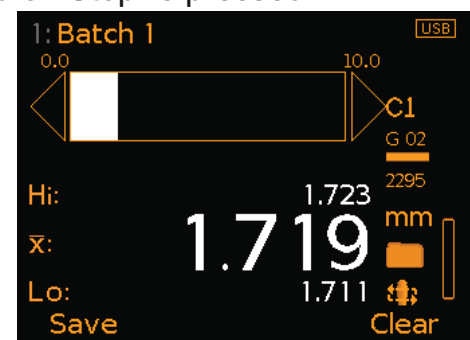

Figure 4
- 7 The scanned lowest, average and highest reading will be displayed on screen (Figure 4). Press 'Save' to store the scanned readings into the gauge or batch memory. Press 'Clear' to disregard the last scan and start again.